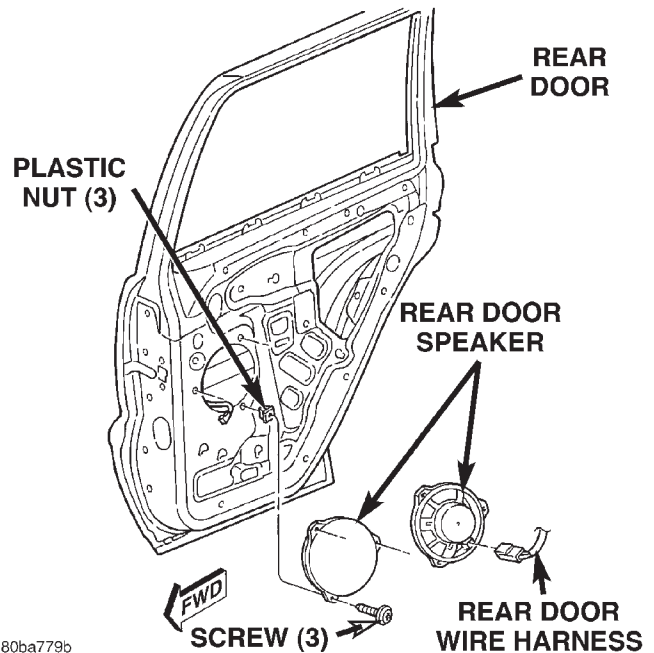

Fig. 10 Rear Door Speaker Remove/Install
- (1) Disconnect and isolate the battery negative cable.
- (2) Remove the trim panel from the rear door. Refer to **Rear Door Trim Panel** in the Removal and Installation section of Group 23 - Body for the procedures.
- (3) Remove the three screws that secure the speaker to the rear door inner panel (Fig. 10).
- (4) Pull the speaker away from the rear door inner panel far enough to access the rear door wire harness connector.
- (5) Disconnect the rear door wire harness connector from the speaker connector receptacle.
- (6) Remove the speaker from the rear door inner panel.